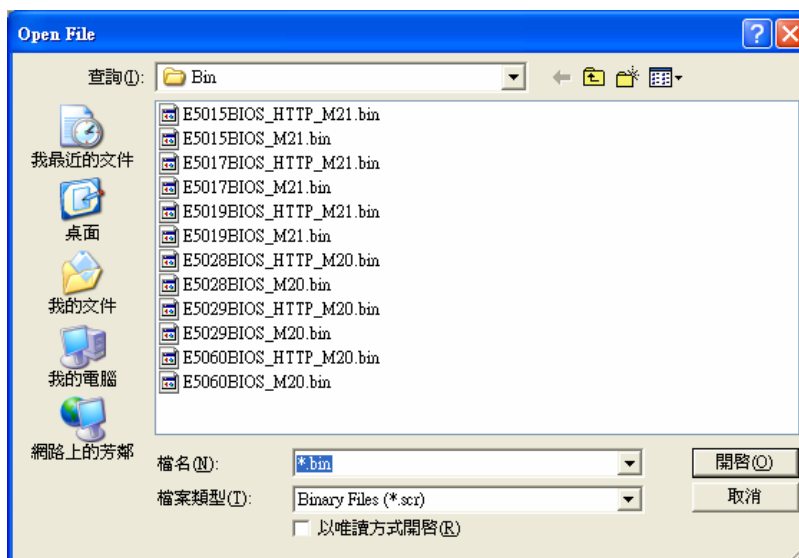

Figure 15-6
6. Select the firmware file your are going to update (see Figure 15-6)